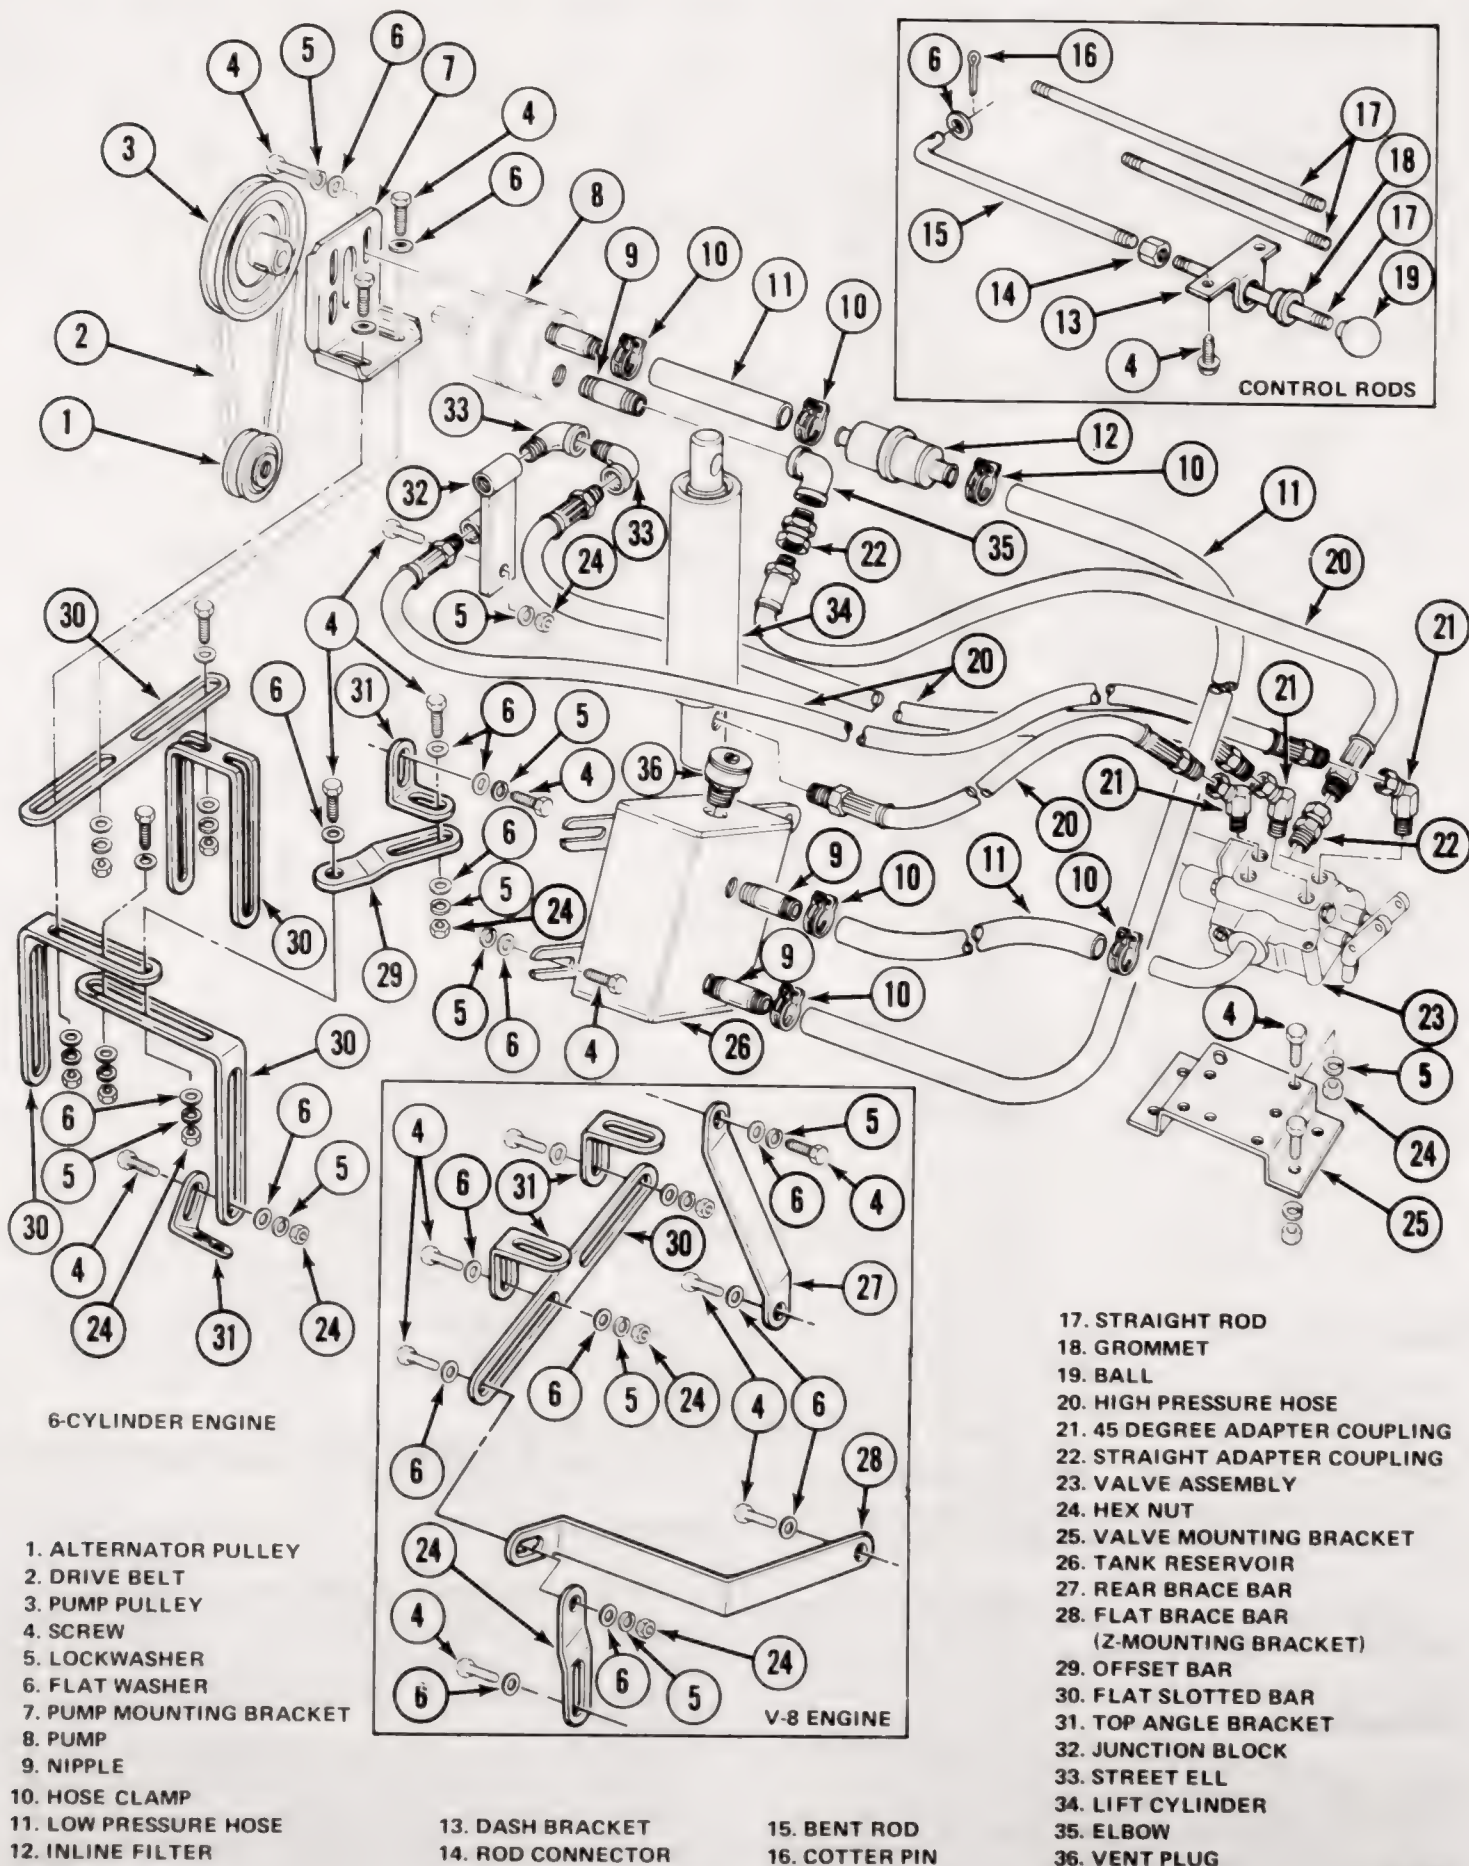
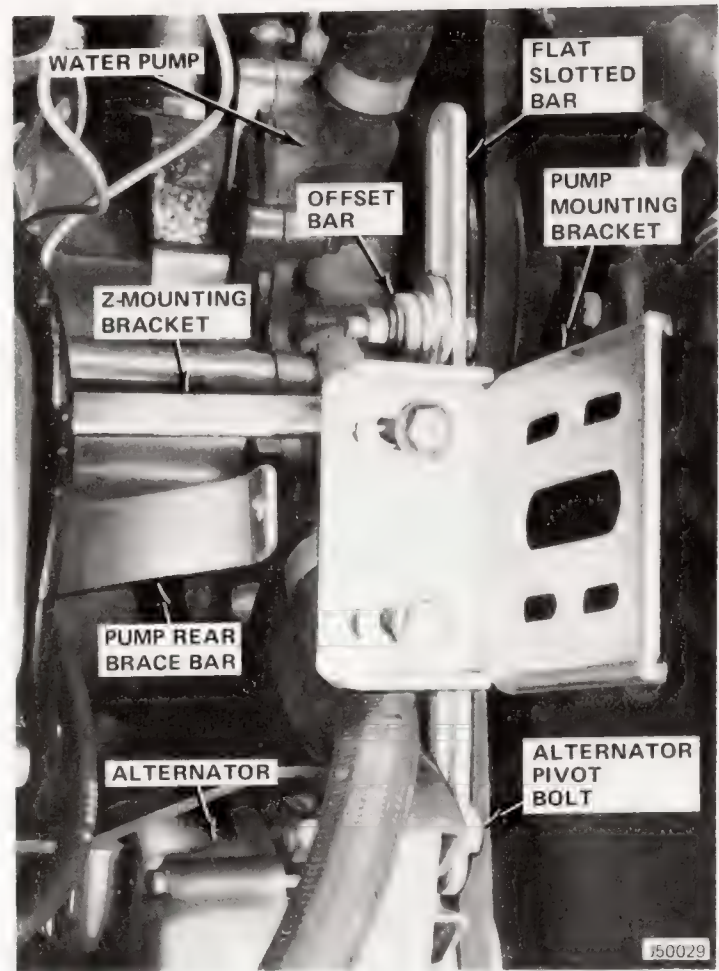
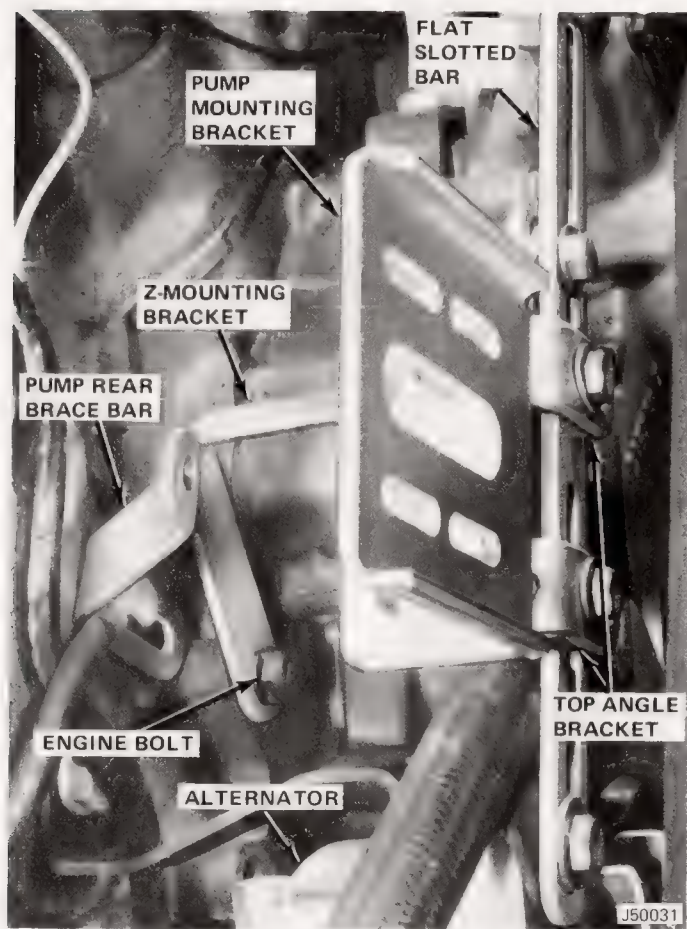
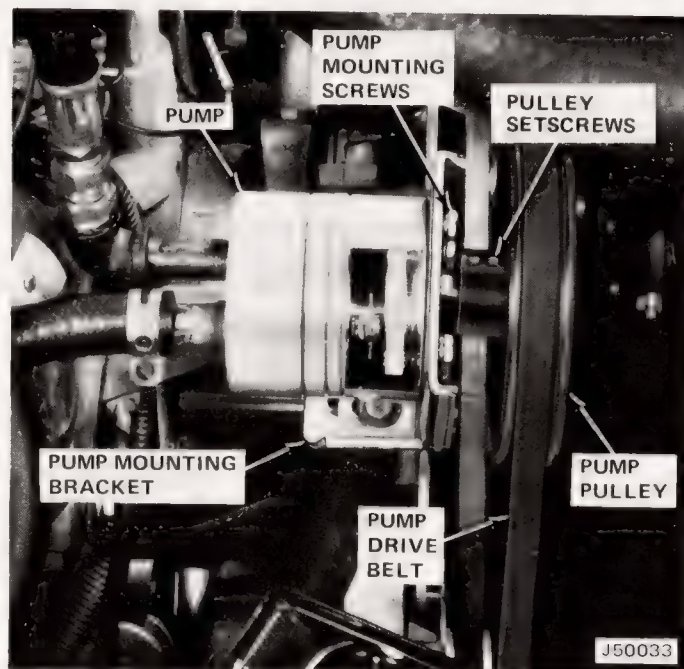

Fig. 1-46 Hy-Lo Jack II
Fig. 1-47 Pump Bracket Installation—Eight-Cylinder
Fig. 1-48 Pump Support Bracket Installation—Eight-Cylinder
Fig. 1-49 Pump Installation
These instructions cover the installation of the Hy-Lo, B Series, 7-Way System (fig. 1-46), which adds angling capabilities to the snow plow rather than just raising and lowering. The 3-way system is the same as the 7-way system except for incorporating four less valves than in the 7-way system. All control valves are located in the same valve block assembly.
(1) Attach flat slotted bar to alternator pivot bolt (fig. 1-47).
(2) Remove water pump bolt at point just above heater hose connection on water pump.
(3) Attach offset bar to water pump using bolt removed in previous step. Do not tighten bolt.
(4) Place flat brace bar (fig. 1-46) in vise and bend into Z-mounting bracket (fig. 1-48).
(5) Remove engine bolt (fig. 1-48) and attach Z-mounting bracket to engine block using engine bolt. Do not tighten bolt.
(6) Attach offset bar and Z-mounting bracket to flat slotted bar using screw, flat washers, lockwasher, and nut.
(7) Adjust alternator belt and tighten all bolts used in bracket and bar installations.
(8) Assemble two top angle brackets to pump mounting bracket with screws, flat washers, lockwashers, and nuts (fig. 1-48).
(9) After attaching top angle brackets to pump mounting bracket, attach top angle brackets to flat slotted bar with capscrews, flat washers, lockwashers, and nuts.
(10) Remove engine ground cable bolt and attach pump rear brace bar and ground cable (with flat washer between ground cable and rear brace bar) to engine. Do not tighten bolt.
(11) Attach pump to pump mounting bracket with screws, lockwashers, and flat washers (fig. 1-49). Do not tighten screws.
(12) Adjust pump rear brace bar as required for proper alignment and attach to pump with screw, lockwasher, and flat washer. Tighten all bolts (except ground cable bolt) and screws on bracket installation.
(13) Install pump pulley on pump shaft, align with drive pulley on alternator using straightedge, and tighten pump pulley setscrews.
(14) Install pump drive belt. Move pump up on pump mounting bracket to tighten belt, and tighten screws holding pump on mounting bracket.
(15) Tighten ground cable mounting bolt.
(1) Four slotted bar pieces are required for six-cylinder model pump installation. One flat piece is required. Using vise, bend two slotted bar pieces into L-shape and one into U-shape (fig. 1-46).
(3) Loosely assemble two L-shaped sections and top angle bracket using screws, flat washers, lockwashers, and nuts (fig. 1-46).
(9) Loosely assemble short offset bar and top angle bracket (fig. 1-46) on L-shaped slotted bar.
(10) Attach pump to pump mounting bracket (fig. 1-49). Do not tighten screws.
(11) Adjust short offset bar and top angle bracket and attach to pump. Do not tighten screws.
(12) Install pump pulley on pump shaft, align with drive pulley on alternator using straightedge, and tighten pump pulley setscrews.
(13) Install pump drive belt.
(14) Move pump up on pump mounting bracket to tighten drive belt. Tighten all bolts and screws.
(3) Install valve mounting bracket.
(4) Install valve assembly on bracket (fig. 1-46 and 1-53).
(5) Position reservoir as follows: